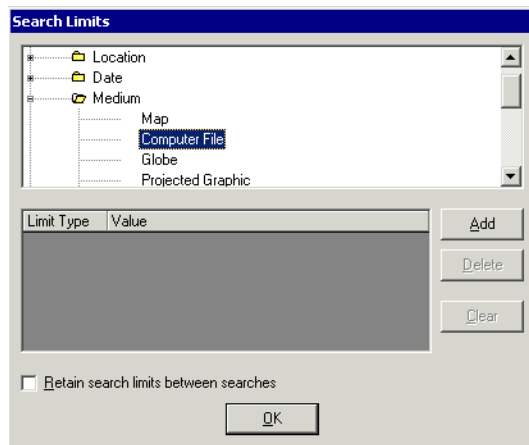

Figure 2-64. Computer File selected as search limit
3. Select any values from the list you want to use as limits for your search. Figure 2-64 shows the Medium limit of Computer File selected.